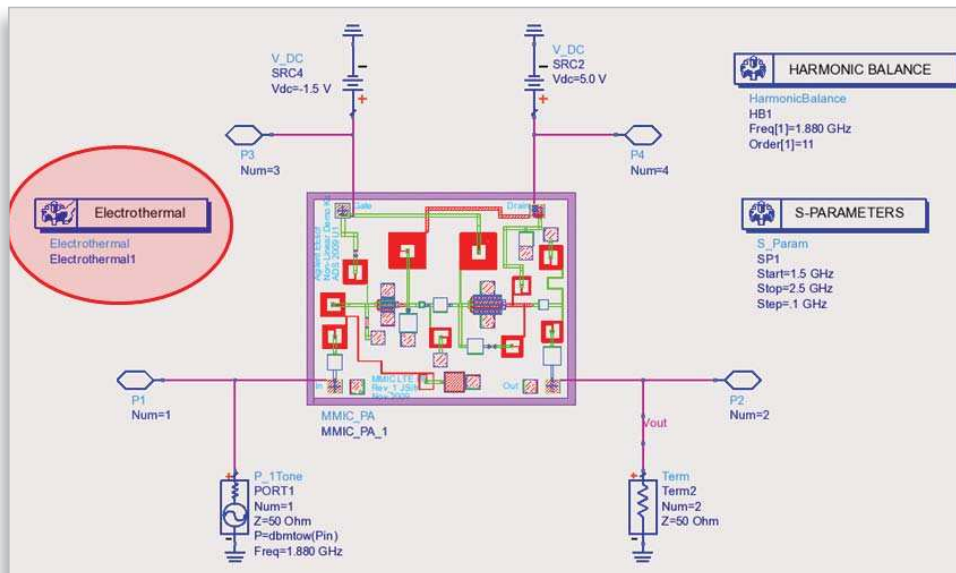

Figure 1a. The Electro-Thermal controller is used to setup and launch the thermal solver together with the circuit simulator.
- 3** An Electro-Thermal controller is added to the schematic, and settings for the thermal solver are adjusted (Figures 1a and 1b).